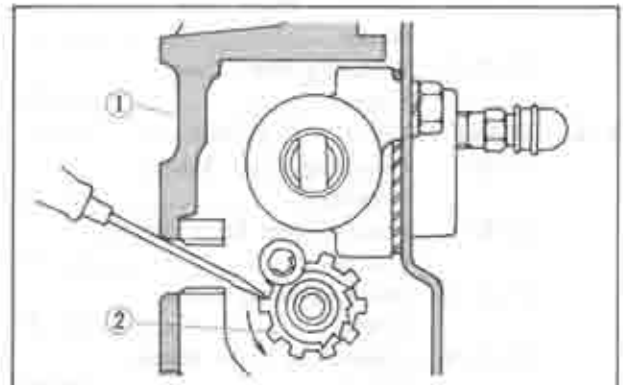

Fig. 11-3 Adjusting brake shoe
4. Through the hole for the wheel bolt on the brake drum, turn the star wheel toward the arrow direction until the drum is locked, as shown in Fig. 11-3.